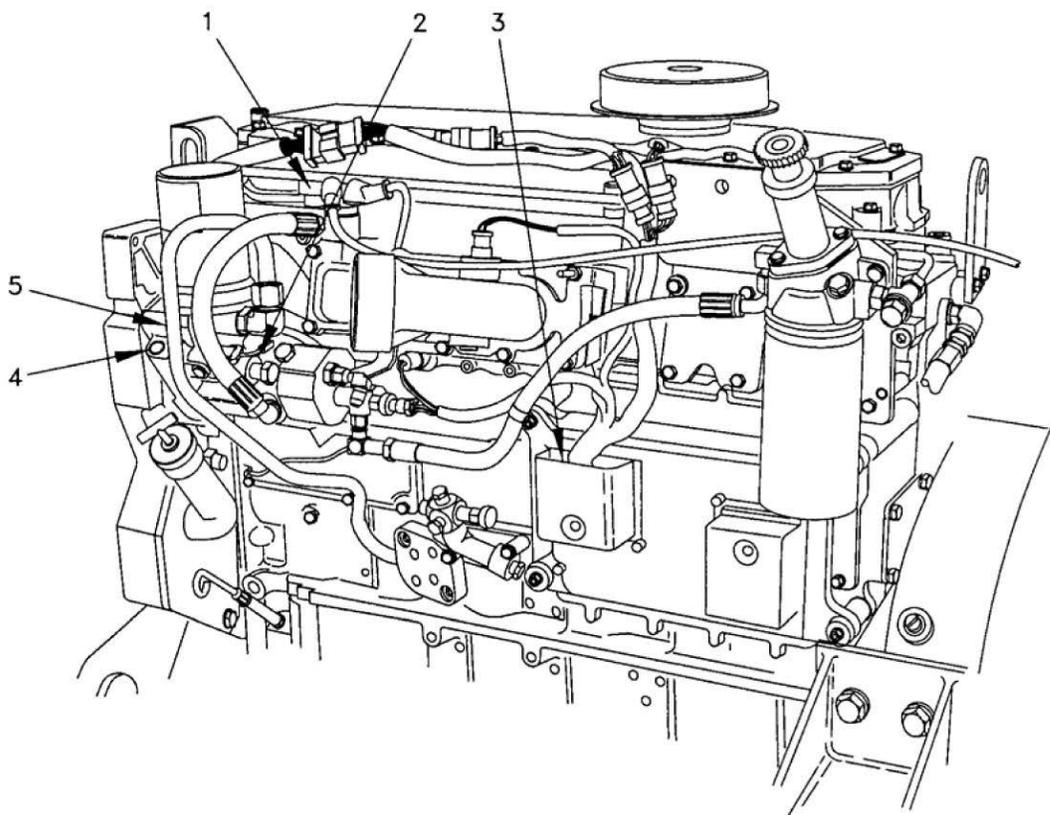

Figure 6. Location of Components for Injection Actuation Pressure Tests.
Use the steps that follow to check the operation of the HEUI fuel system. Circle the appropriate answer in the Results section of each test step. Complete all of the test steps that are in this procedure. Figure 6 shows the locations of the left-side engine components referenced in this test.
- a. Install 8T-0852 pressure gauge or equivalent on the high pressure oil rail (Figure 6, Item 5).